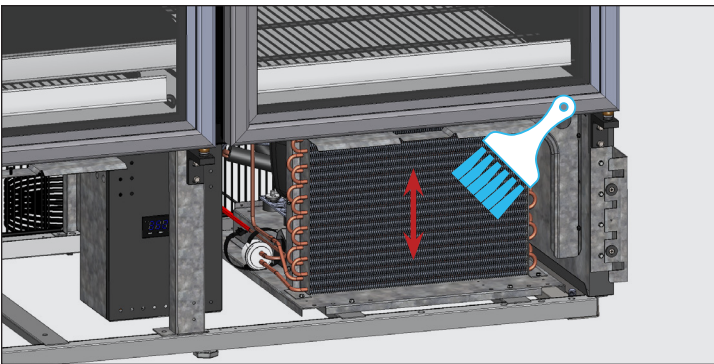

Fig. 3. Never brush across coil fins!
3. With a stiff bristle brush, carefully clean accumulated dirt from the front condenser coil fins See fig. 3.